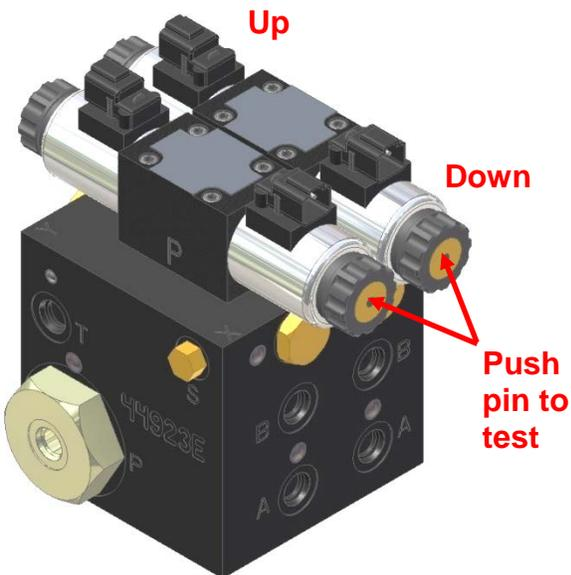
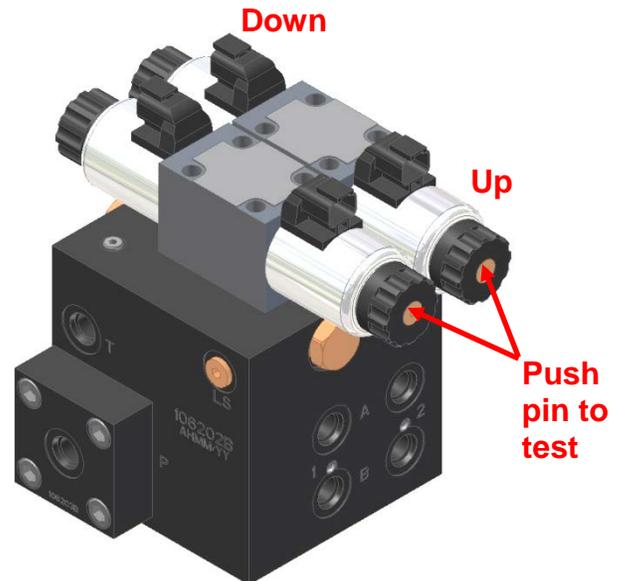

Figure 9: Manual Valve Override Test
Figure 10: Manual Valve Override Test
2. Perform the manual override test for each proportional function by pushing in the pin with a small screwdriver or awl in the center of the coil as shown in **Figure 9** or **Figure 10**.